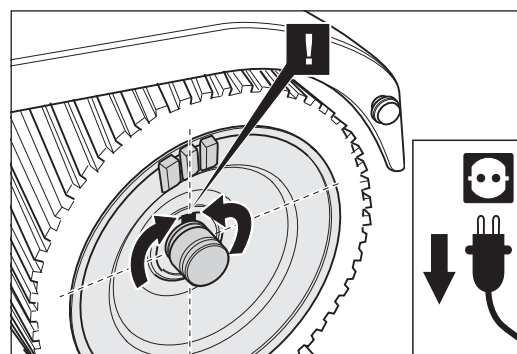

Fig. 88 Turn the sanding drum in such a way that the groove is pointing upwards to ensure that the parallel key is not lost.
- 8 Turn the sanding drum in such a way that the groove is pointing upwards to ensure that the parallel key is not lost (fig. 88).